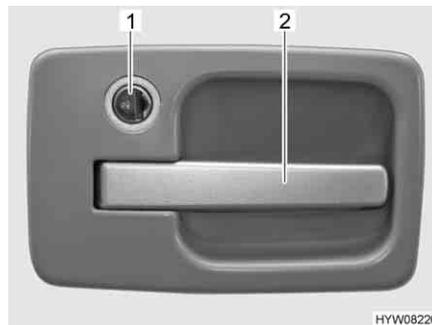

Fig. 30 Door lock of conversion door, outside
- Insert the key into the locking cylinder (Fig. 30,1) and turn towards the "U" symbol. The door lock is unlatched.
- Pull on the handle (Fig. 30,2). The door is open.
- Insert the key into the locking cylinder (Fig. 30,1) and turn towards the "L" symbol. The door lock is locked.